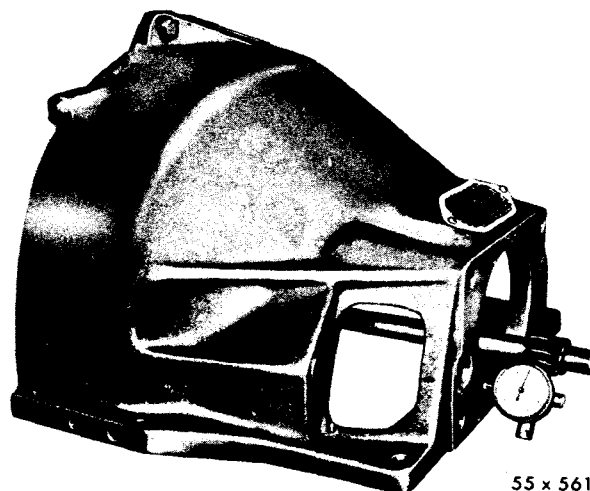

Fig. 9 — Checking Rear Face of Housing
- (4) Change the position of the dial indicator and check the rear face of the housing as shown in Figure 9. This tolerance must be within .002 inch.